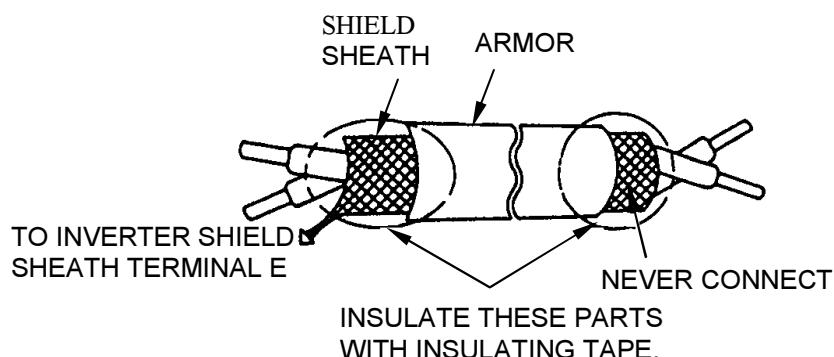

Fig. 4 Shielded Wire Termination
- (1) Separation of control circuit leads and main circuit leads: All signal leads must be separated from main circuit leads L1 (R), L2 (S), L3 (T), \oplus , \ominus , B2, T1 (U), T2 (V), T3 (W) and other power cables to prevent erroneous operation caused by noise interference.
- (2) Control circuit leads ⑨, ⑩, ⑯, ⑯, ⑰ (contact output) must be separated from leads 1 to 8, ⑪, ⑫, ⑯, ⑯, ⑰ and ⑯~⑯.
- (3) Use twisted shielded or twisted pair shielded wire for the control circuit line and connect the shield sheath to the inverter terminal E to prevent malfunction caused by noise. See Fig.4. Wiring distance should be less than 164ft (50m).